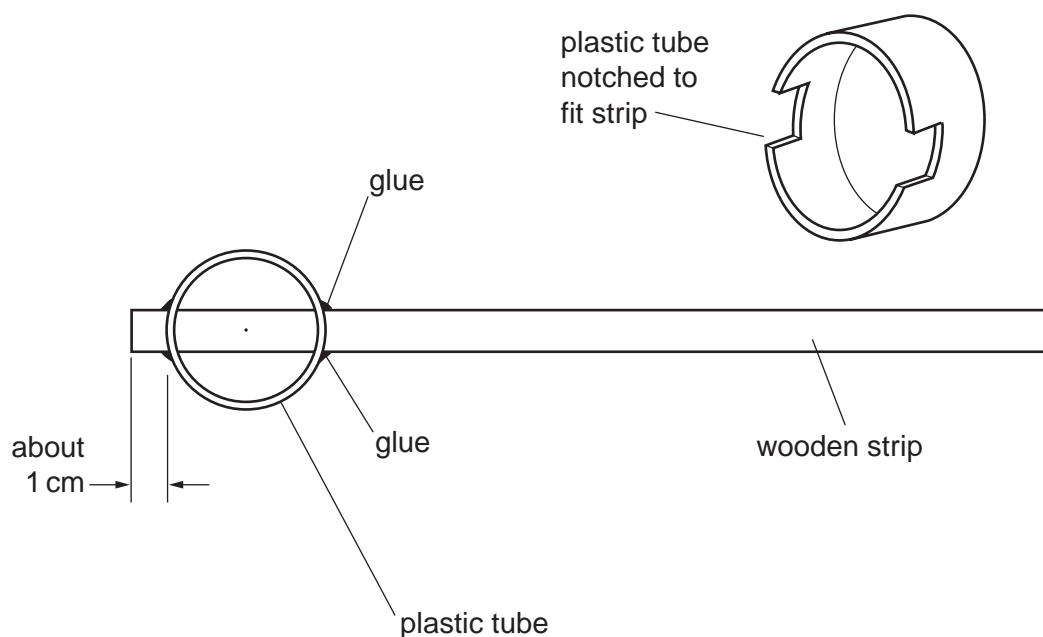

Fig. 1.1
- Notch the tube and glue it securely near to one end of the wooden strip as shown in Fig. 1.1.